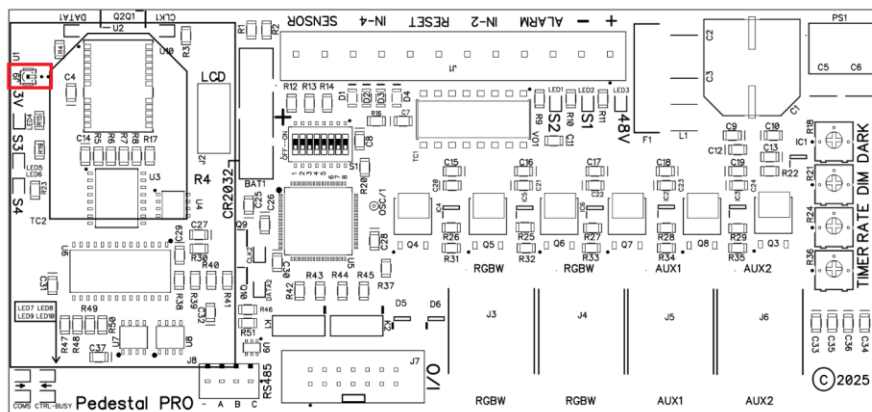

Figure 13 Control board layout showing the location of the coaxial port for the antenna.
- Locate the coaxial port on the control board and gently thread the GPS antenna cable to it (see Figure 13).